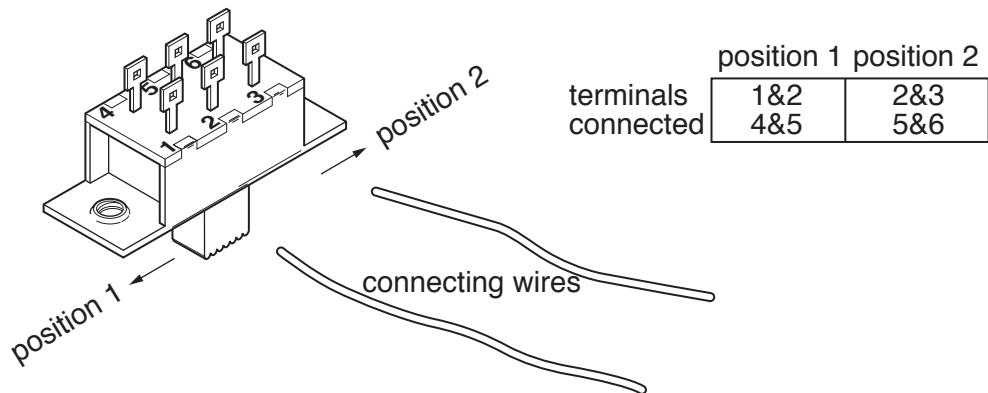

Fig. 13
- (iii) Fig. 13 shows a DPDT slide switch with information about the contacts.
Draw on Fig. 13 to show the connections that will allow the switch to operate as a single pole single throw (SPST) switch. [2]